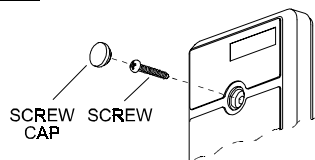

Figure 2. Front Cover Removal
K. Carefully position the front cover hole over the LED. Secure the front cover to the base with the screw and insert the plastic cap into the hole (Fig. 2).